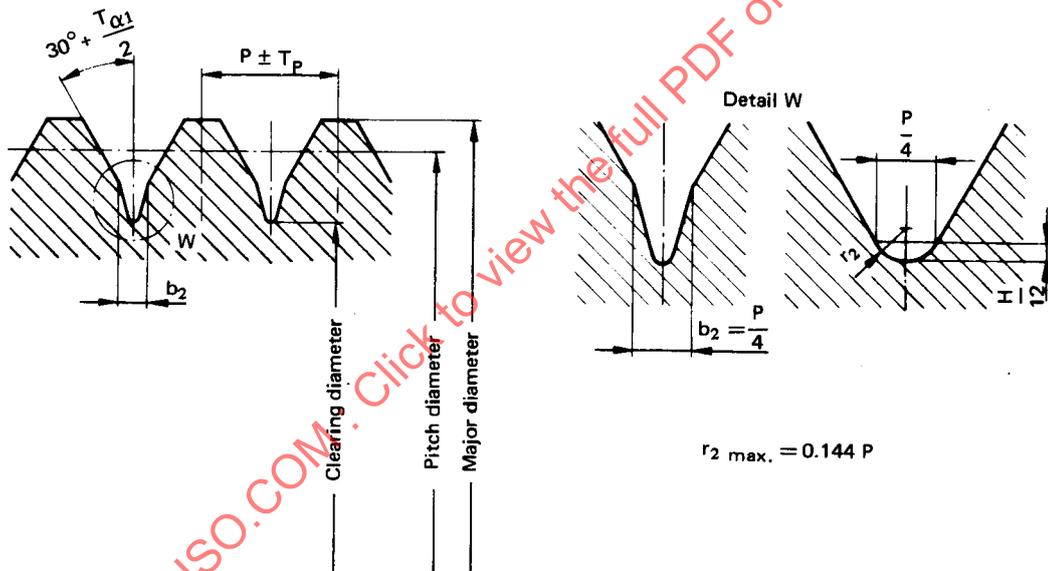

FIG. 5 - Profile with complete flanks
9.1 Profiles with complete flanks (See Fig. 5 and 6)
The following gauges should have profiles in accordance with Figure 5 :
The profile with complete flanks according to Figure 5 can be made with a radius of maximum  $r_2$  (see Table 1) which contacts tangentially the straight part of the flank, or with a clearance groove of maximum  $b_2$  (see Table 1). The form of the clearance groove is left to the discretion of the manufacturer.
TABLE 1 - Values for profiles with complete flanks (See Fig. 5 and 6)